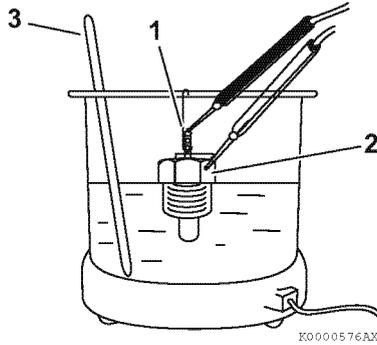

Figure 8-9
1. Check for proper operation of the temperature switch. Connect a continuity light or ohmmeter to the terminal of the switch (1, **Figure 8-9**) and the other lead to the metal portion of the switch (2, **Figure 8-9**).
2. Place the temperature switch and an accurate thermometer (3, **Figure 8-9**) in engine coolant.